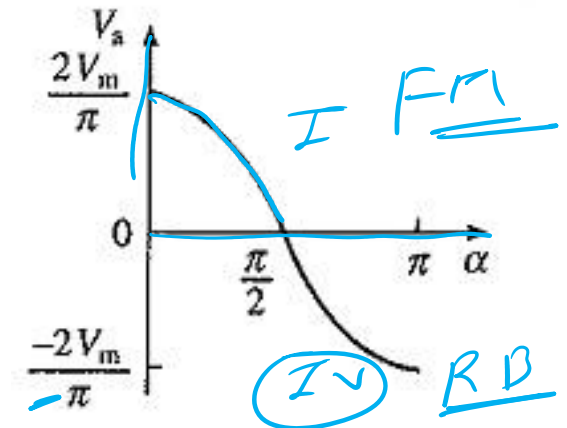

Fig. 5. V_a and α curve.
- From Eq. (14), under the assumption of continuous conduction, dc output voltage of rectifier varies with α as shown in Fig. 5.